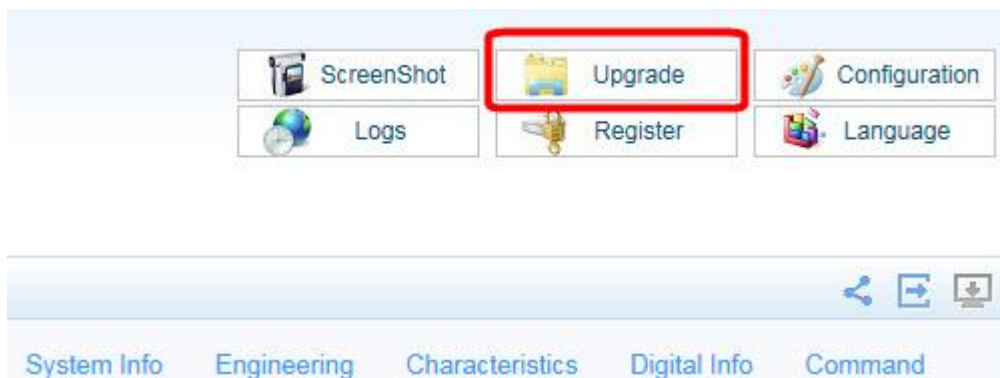

Figure 8-2 Software Upgrade Step 1
1. Log in to the WebOMT on the Master AU. Click the **Upgrading** button on the main page to navigate to the software upgrade page. See Figure 8-2.